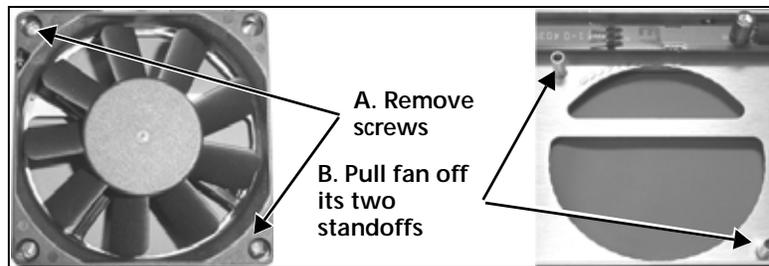

Figure 2-13 Removing a Fan from the Assembly
- 6 Unscrew the fan, and then pull it firmly away from the assembly to remove it from the standoffs (see Figure 2-13).